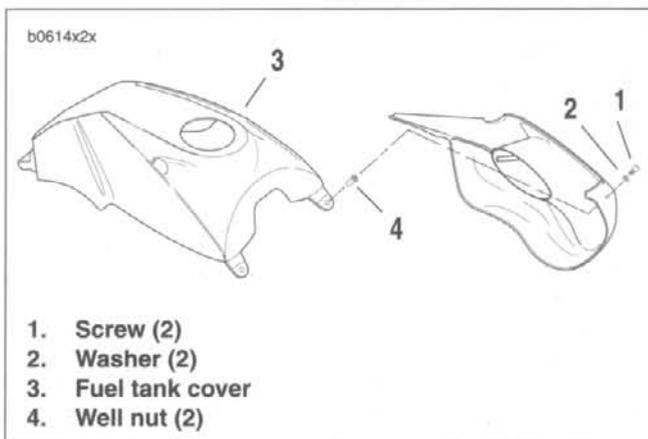

Figure 2-160. Fuel Tank Cover (1999 Model Shown)
4. See Figure 2-160. Remove two screws (1), washers (2) and well nuts (4) at front of tank cover.
2. See Figure 2-160. Secure front of fuel tank cover (3) with screws (1) and washers (2) through well nuts (4).